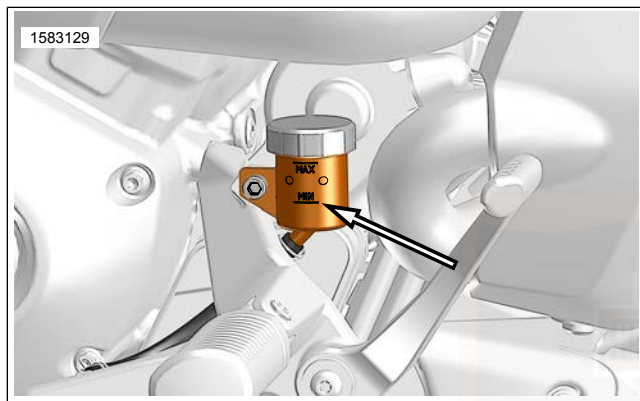
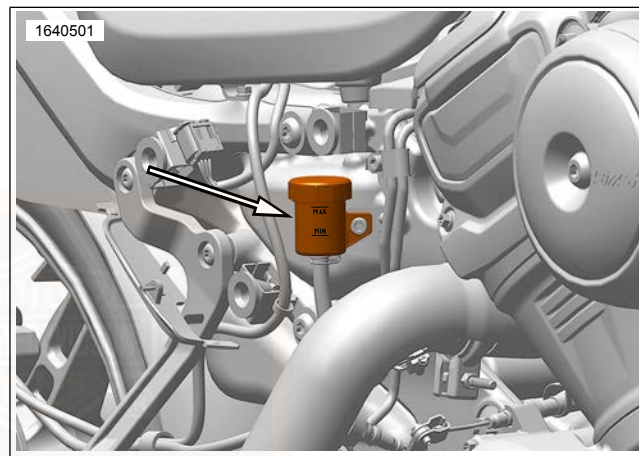

Figure 62. Rear Master Cylinder Reservoir MIN Level (1250 Models Typical)
Figure 63. Rear Master Cylinder Reservoir MIN Level (975 Models Typical)
4. **Rear:** See Figure 62 or Figure 63. Check level on side of rear brake reservoir. Level must be above minimum mark on side of reservoir.